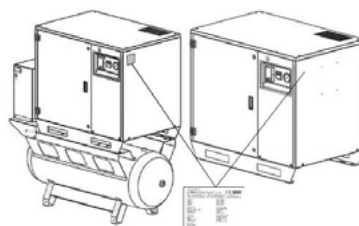

Fig.1
Only use original spare parts; using NOT ORIGINAL spare parts will void the warranty. Use the compressor with the rated voltage as indicated on the CE mark plate (see Fig. 1).
- The supply voltage must correspond to the one shown on the CE tag (see Fig. 1).